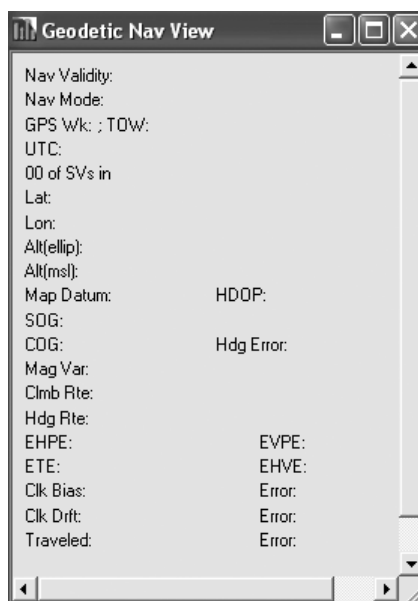

Figure 5-2: Geodetic Nav View
2. Select Messages from the View menu. Enable the Geodetic Nav and SiRFDrive options. The windows shown in Figures 5-2 and 5-3 will become available.